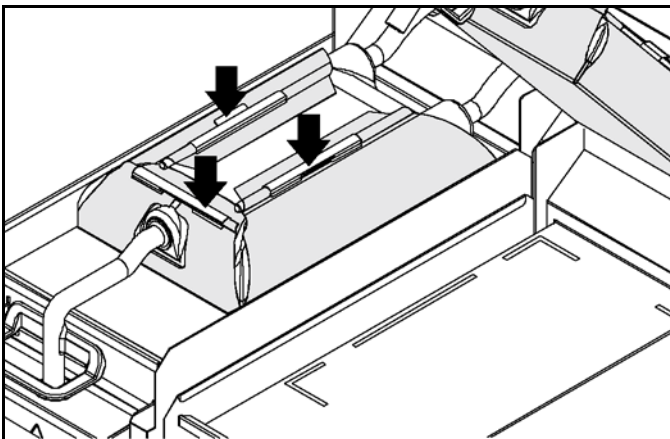

Figure-190
28. Reinstall the upper and lower release sheets (see O&T Manual or Grill Cleaning Key Card for details). See Figure-190.